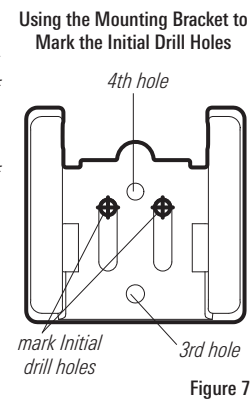

Figure 7
3. Continue to hold the bracket on the transom of the boat, and use a pencil or marker to mark where to drill the two mounting holes. Mark the drill holes near the top of each slot, making sure that your mark is centered in the slot (Figure 7).
1. To lock down the transducer, trace the position of the mounting bracket. Force the pivot to the Up position to gain access to the mounting screws, then re-align the mounting bracket against the transom of the boat to match the traced silhouette. Check the bracket position with the level again to make sure it is still level, then mark the fourth mounting hole using a pencil or marker (Figure 7). Unscrew and remove the mounting screws and the transducer assembly and set aside.